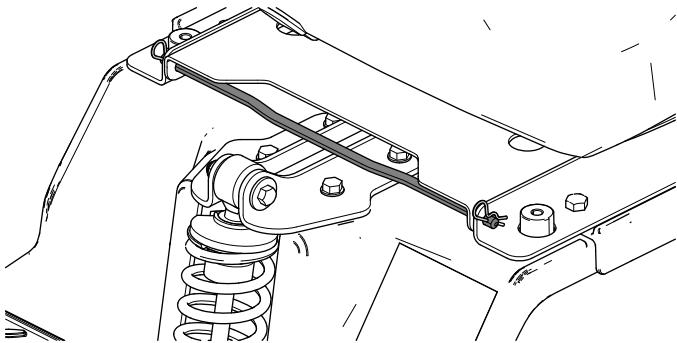

Figure 9
5. Install the other hairpin cotter on the other side of the seat-pivot rod (Figure 9).